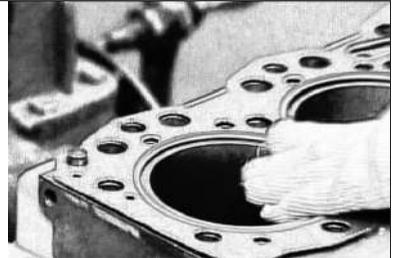

Fig 5-16 Cylinder Head Gasket
2.4 The cylinder head gaskets (see Fig 5-16) which have non-asbestos one and full metal one are used in YTO series engines according to requirements. When maintaining, please chose and use the same gasket as original engine, and select the torques of cylinder head belts according to the corresponding engine model.